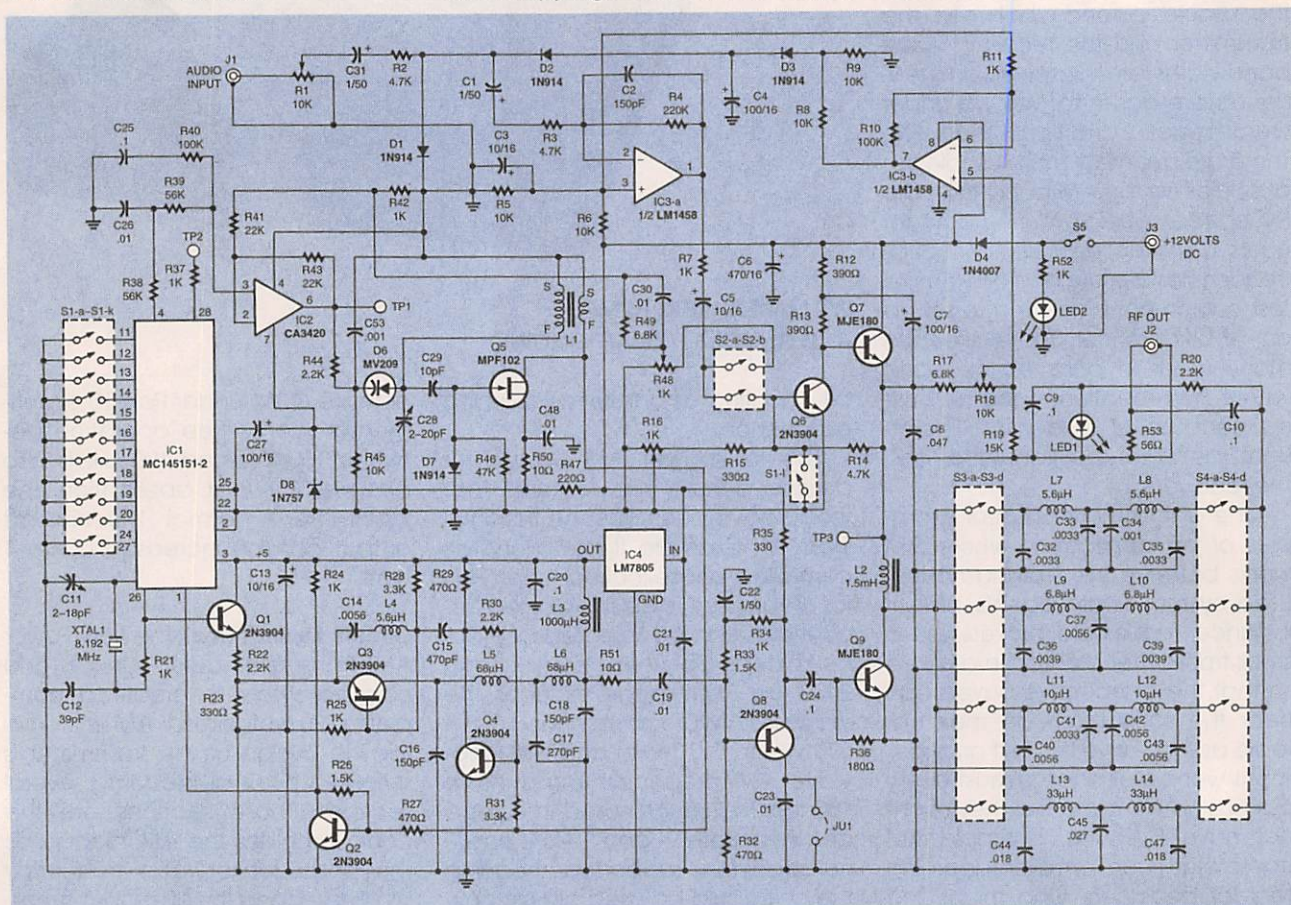

Fig. 1. The AM transmitter is built around a phase-locked loop synthesizer for frequency control of the carrier wave.
**Circuit Description.** The Low-Power AM Transmitter uses four ICs and nine transistors to create a complete PLL-synthesized AM transmitter. The design of the transmitter is simplified if it is divided into several sections. Those sections are the audio amplifier, the AM modulator, the phase-locked-loop frequency synthesizer, and the RF-output amplifier and filters. The schematic diagram in Fig. 1 should be followed as